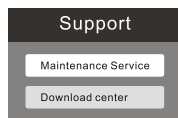

Figure 2
www.benetechco.net in the browser, press enter and enter the page to find the menu "Support > Download center",as shown in Figure 2. Click into the page to find the software installation package "setup_Anometer. Zip",as shown in figure 3.Click the download button to directly extract the "zip package" after downloading. Double-click "setup_Anometer.exe" icon to enter into program installation interface; choose between"Chinese or English" according to software installation prompt; click "OK" to the next step, as shown in Figure 4 below.
- Line chart: Figure 1 is wind speed / volume chart; Figure 2 is temperature and humidity chart; print button; measured data list.